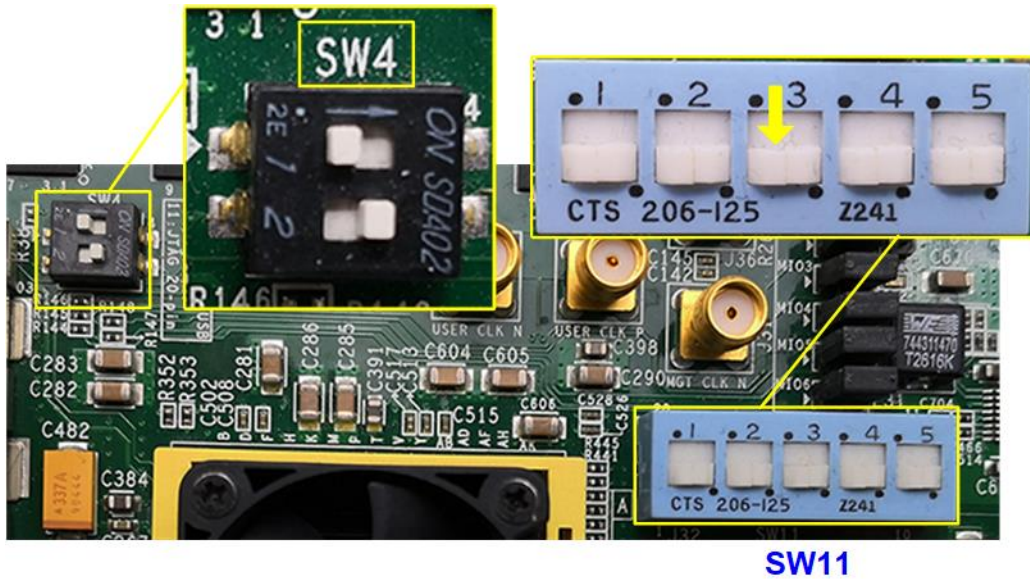

Figure 3-1 SW11 setting to configure PS from JTAG on ZC706 board
- 1) On the Zynq device board (ZC706), ensure that the DIP switch setting is correct. For ZC706, set SW11=all OFF to configure PS from JTAG and set SW4[1:2]=[OFF ON] to connect JTAG with USB-to-JTAG interface, as shown in Figure 3-1.